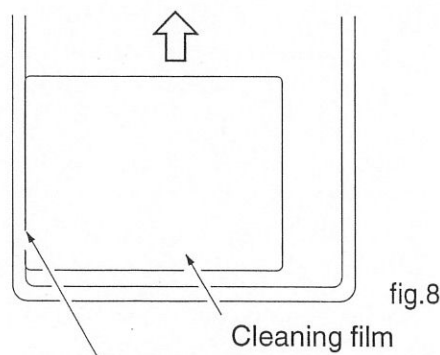

fig.8
- ④ Insert the cleaning film, one sheet at a time, always lining up the film edge either the right or left guide on the feed tray. (fig.8)